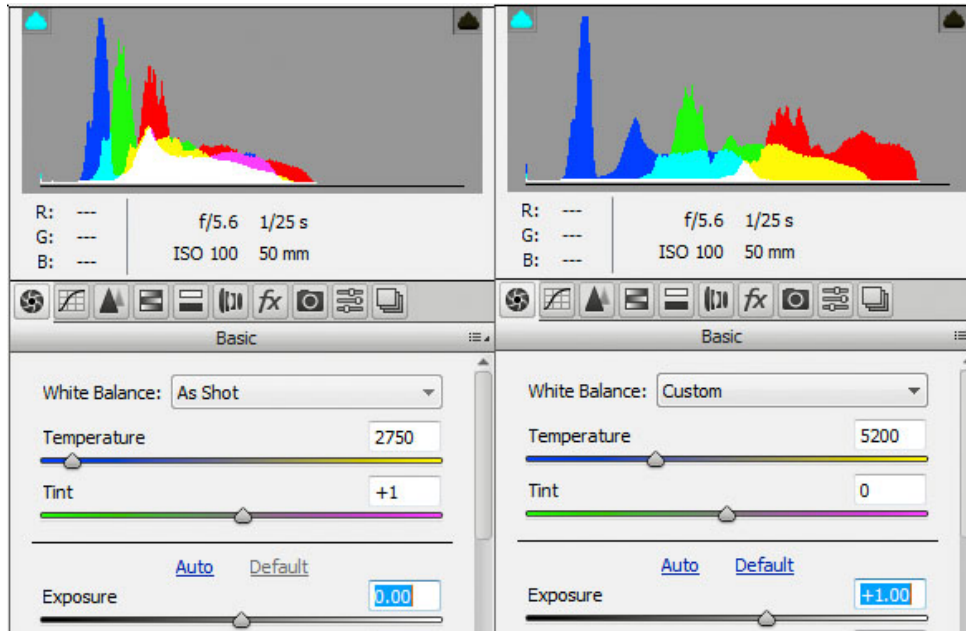

Figure 14. White Balance Adjustment (left, before; right, after)
(1) Open the camera raw color film copy image file inside Photoshop using Adobe Camera Raw (ACR) with the 'default' settings, Adobe Standard camera profile, ProPhoto RGB color space, and 16bit/channel. If you use the 'Auto' White Balance setting in your camera the ACR 'As Shot' settings will be incorrect. This will require manually entering the proper 'White Balance' settings for the shooting light source (Flash, Tungsten, Custom). If necessary adjust the ACR Exposure setting so that the image data is centered in the Histogram between the Black and White endpoints. Increase the Exposure setting until the image data barely compresses at the Highlights end (i.e. Image Adaptive Control Wall) as shown in Figure 14 below. If you have to decrease The Exposure setting the image is probably over-exposed and should be reshot for best results.